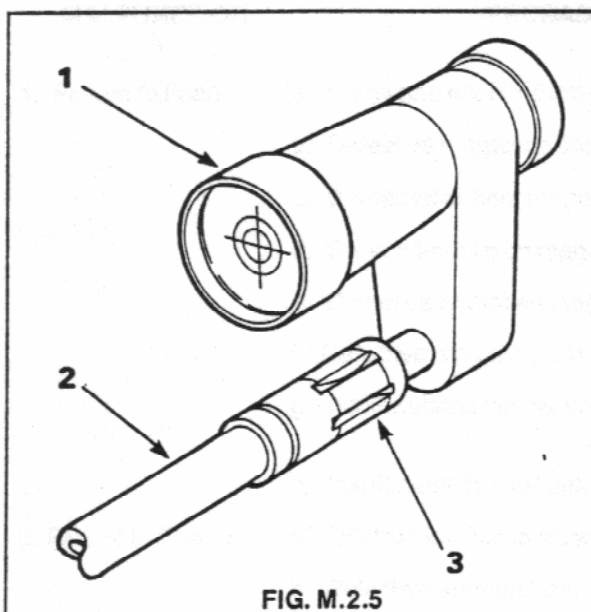

FIG. M.2.5
14. Place weapon on a high table, fully insert Eliraz into muzzle end of barrel and pull back just a little, ensuring that instrument is vertical to barrel and in line with eye. Position rear sight to 300 metres and aim through the sights to the aiming point in the instrument. See Fig. M.2.5.